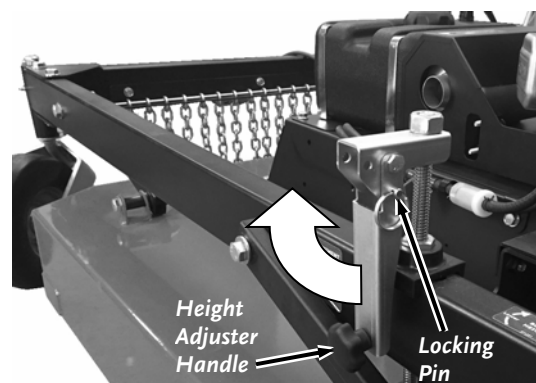

Figure 17
1. Remove the Locking Pin from the Height Adjuster (**Figure 17**).